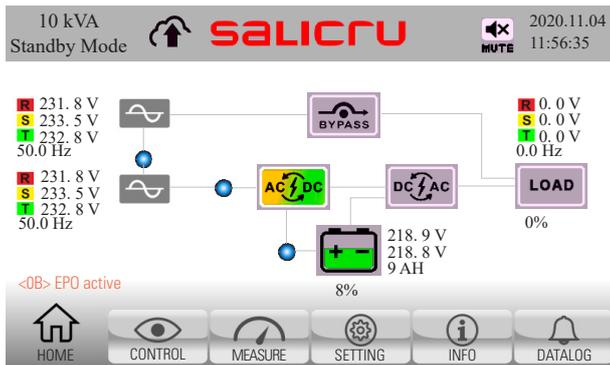

Fig. 38. Main screen with EPO emergency stop activated. There is no output voltage.
2. A new alarm, <OB> "EPO active", appears on the control panel, and the unit switches automatically to standby mode (Fig. 38).